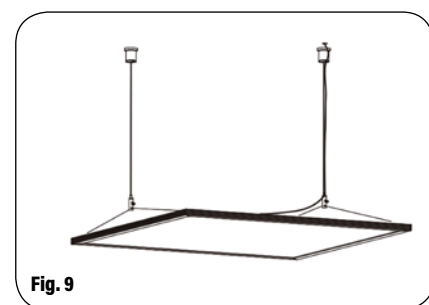

Fig. 9
3. The installation is complete. (Fig. 9)